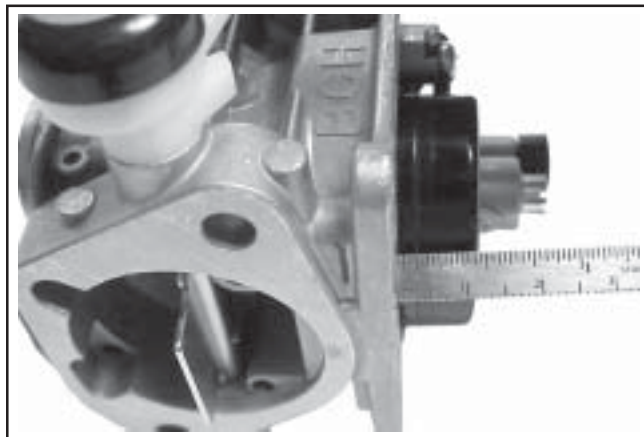

Figure 5-25. Checking Float Height.
13. The correct float height adjustment is **12.0 mm (0.472 in.)** measured from the float bottom to the body of the carburetor. See Figure 5-25. Adjust the float height by carefully bending the metal tang of the float.